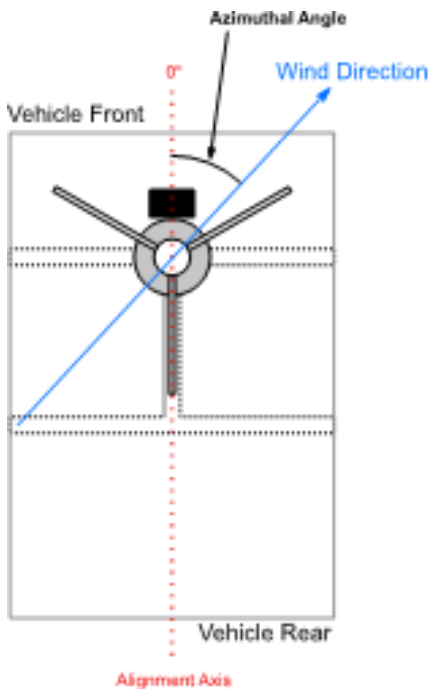

Figure 101 Azimuth Angle and Wind Direction
- Azimuth – azimuthal angle of the wind direction and median azimuthal angle while the vehicle is in motion (see Figure 101).